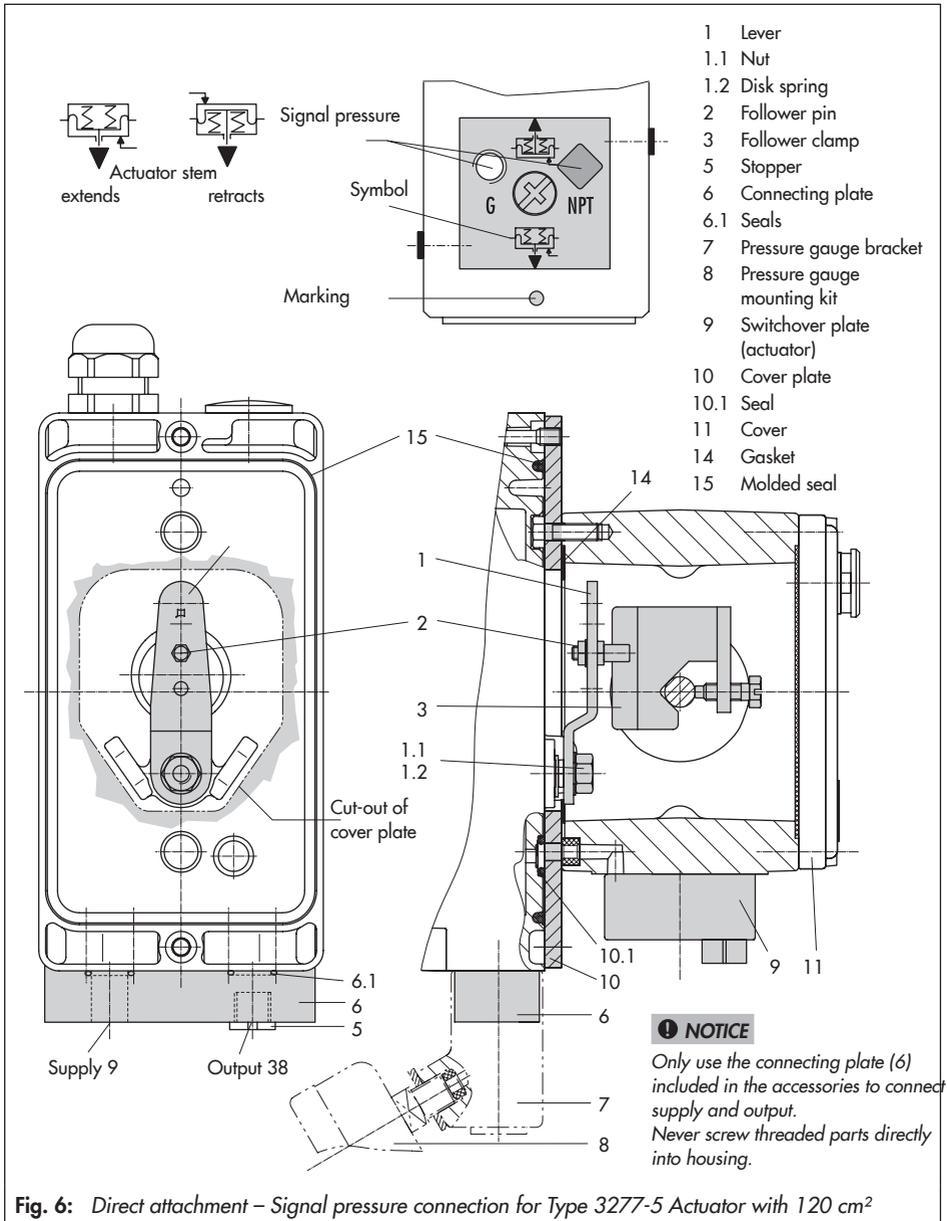

Fig. 6: Direct attachment – Signal pressure connection for Type 3277-5 Actuator with 120 cm²
Actuator with 120 cm² (see Fig. 6)
- Make absolutely sure that the gasket for the connecting plate (9) is correctly inserted.
3. Mount connecting plate (6) or pressure gauge bracket (7) with pressure gauges on the positioner, making sure the two seals (6.1) are seated properly.
4. Place follower clamp (3) on the actuator stem, align it and screw tight so that the mounting screw is located in the groove of the actuator stem.
5. Mount cover plate (10) with narrow side of the cut-out (Fig. 6, on the left) pointing